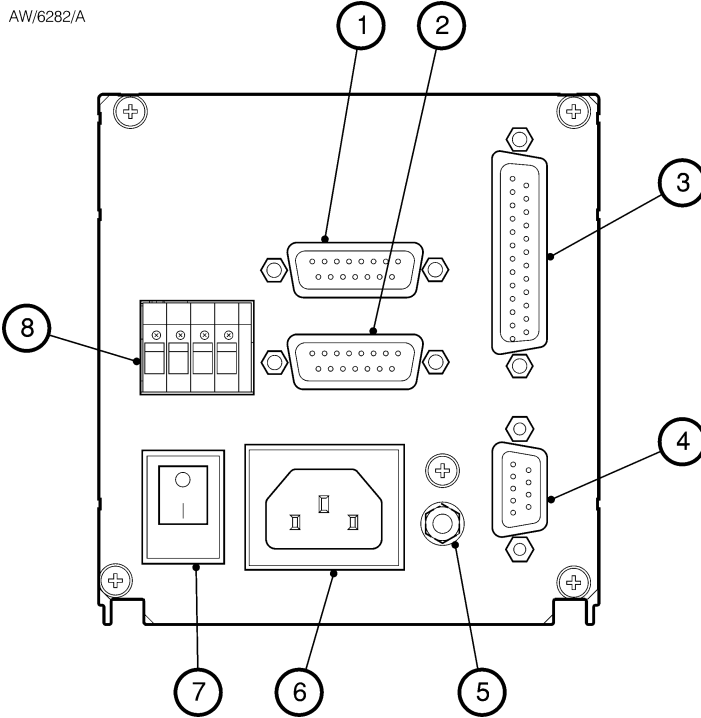

Figure 10 - Rear panel connections
The electrical supply cable normally provides protective earthing for electrical safety. If this is not the case, or if additional earth bonding is required, then the earth stud on the rear of the Controller (Figure 10, item 5) should be connected to your vacuum system earth.